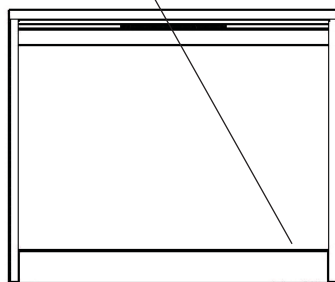

FIGURE 4
2. Locate manual controls. (FIGURE 4)